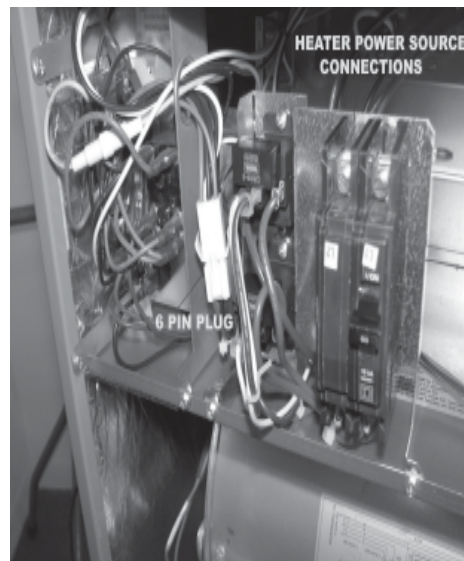

Fig. 4 - Electrical connections
6. Carefully separate wires from bottom section of terminal block or breaker bracket. Secure bracket to cabinet mounting rail with screws provided. Use wire tie to fasten loose wires around the bracket area (see fig. 4).
4. For electric heat installations connect the supply power to the circuit breaker or terminal block supplied with the heater (see fig. 4).
5. Connect the heater control wire harness to the matching plug (or matching EP connector to control board header) located inside the air handler (see fig. 4).